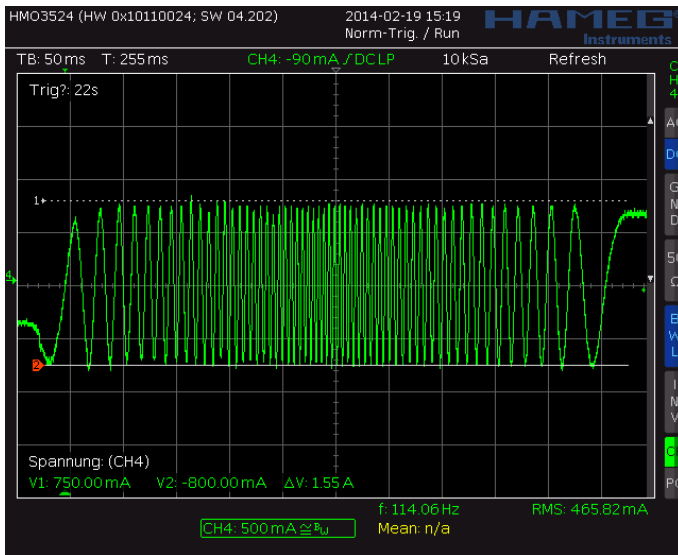
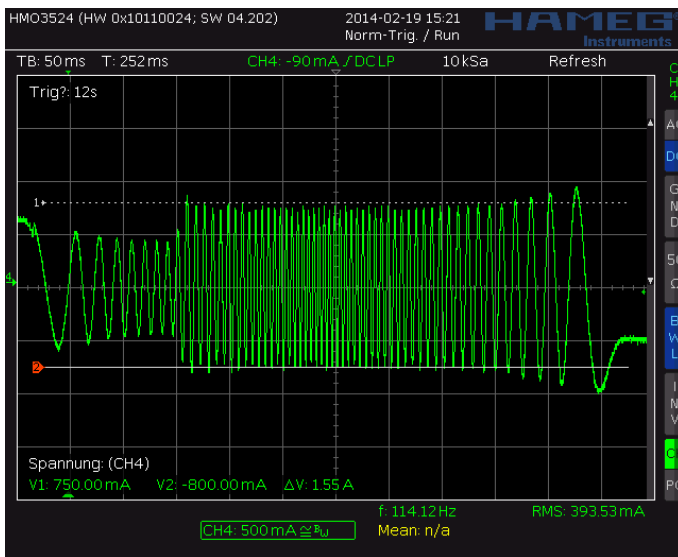
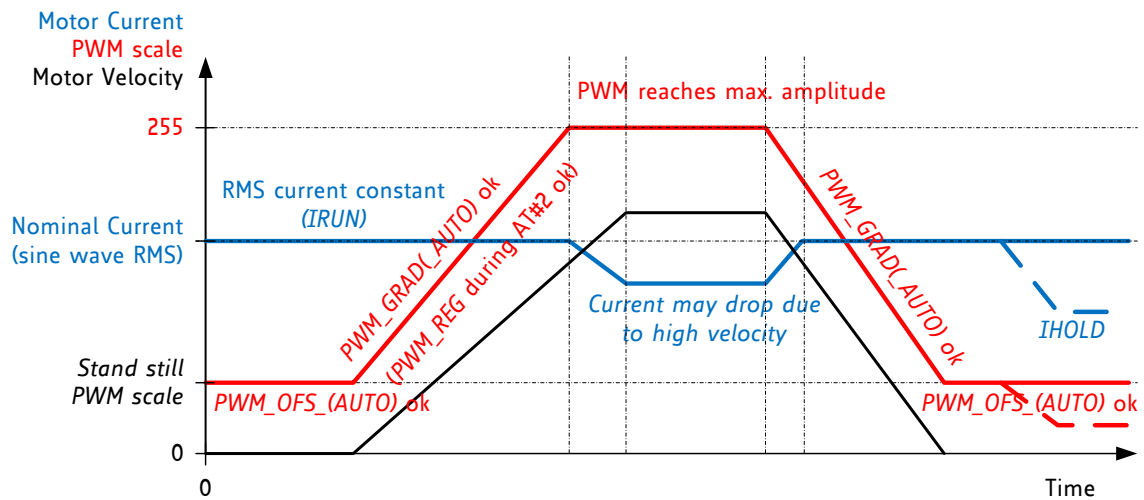

Figure 6.3 Scope shot: good setting for PWM\_REG
Figure 6.4 Scope shot: too small setting for PWM\_REG during AT#2
Figure 6.5 Successfully determined PWM\_GRAD(\_AUTO) and PWM\_OFS(\_AUTO)
In StealthChop voltage PWM mode, the autoscaling function ( $pwm\_autoscale = 1$ ,  $pwm\_auto\_grad = 1$ ) regulates the motor current to the desired current setting. Automatic scaling is used as part of the automatic tuning process (AT), and for subsequent tracking of changes within the motor parameters. The driver measures the motor current during the chopper on time and uses a proportional regulator to regulate  $PWM\_SCALE\_AUTO$  in order match the motor current to the target current.  $PWM\_REG$  is the proportionality coefficient for this regulator. Basically, the proportionality coefficient should be as small as possible in order to get a stable and soft regulation behavior, but it must be large enough to allow the driver to quickly react to changes caused by variation of the motor target current (e.g. change of VREF). During initial tuning step AT#2,  $PWM\_REG$  also compensates for the change of motor velocity. Therefore, a high acceleration during AT#2 will require a higher setting of  $PWM\_REG$ . With careful selection of homing velocity and acceleration, a minimum setting of the regulation gradient often is sufficient ( $PWM\_REG=1$ ).  $PWM\_REG$  setting should be optimized for the fastest required acceleration and deceleration ramp (compare Figure 6.3 and Figure 6.4). The quality of the setting  $PWM\_REG$  in phase AT#2 and the finished automatic tuning procedure (or non-automatic settings for  $PWM\_OFS$  and  $PWM\_GRAD$ ) can be examined when monitoring motor current during an acceleration phase Figure 6.5.